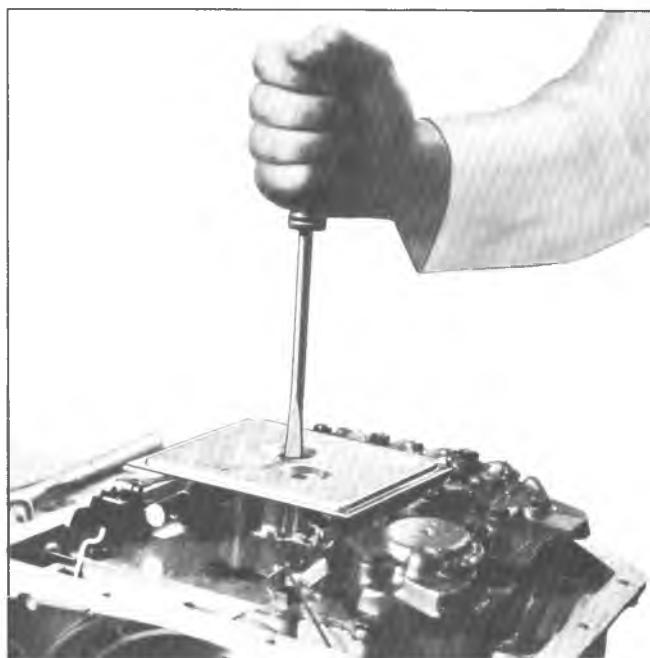

Fig. 10M--Removing Oil Pump Suction Screen
10. Remove oil pump suction screen (strainer) to valve body attaching screws (fig. 10M).